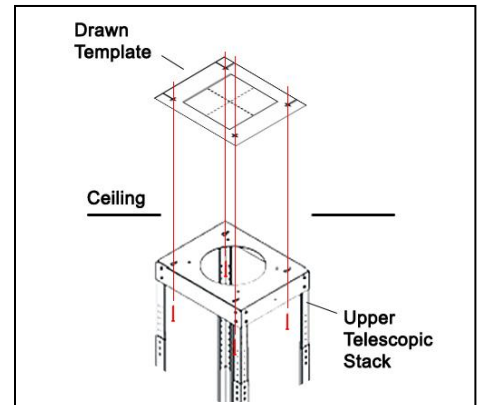

Figure 1
- Mark the centerline of the cooktop/range on the ceiling. Use that centerline to determine the position of the range hood as shown in Figure 1.